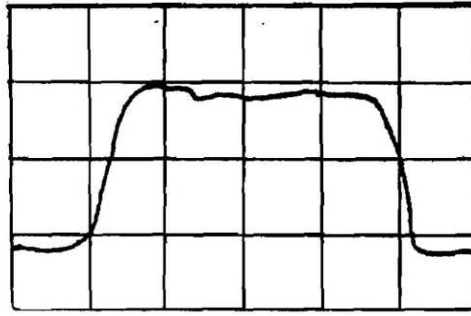

Figure 9
- (3) The presentation on the CRT should resemble that shown in Figure 9. If necessary, invert the oscilloscope vertical channel to obtain an upright presentation.